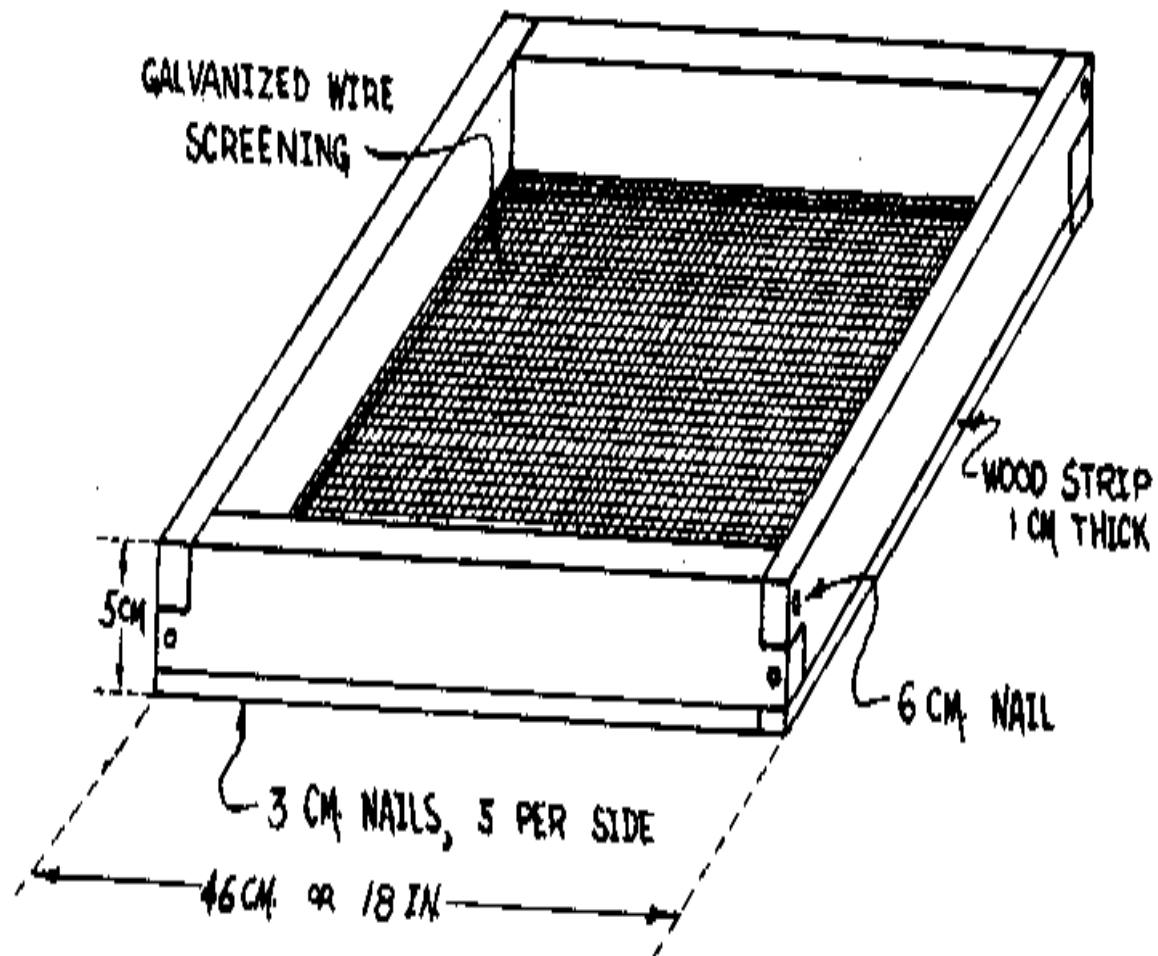

FIGURE 1
This seed cleaner was developed in Afghanistan to remove round seeds of weeds from wheat grains. The round seeds could not be separated by a sieve because they were the same size as the wheat grains. The cleaner described here takes advantage of the round shape of the weed seeds to separate them from the wheat. The wheat grains, which roll down the chute slowly, collect at the base of the inclined platform ("x" in Figure 1); while the round seeds roll faster and fall off
the side opposite the chute ("y" in Figure 1).
As shown in Figure 1, the chute is attached at the top of the 80cm (2'7")
An important step for improving crop production is the effective cleaning of crop seeds. The sieves described here have been found effective in many countries. <see figure 1>
- o Waterproof chest that will keep out vapor, to dry and store the grain. A steel drum or sheet metal cabinet would be good. A wooden chest can be used if it is vapor-proof, as in Figures 1, 2, and 3.